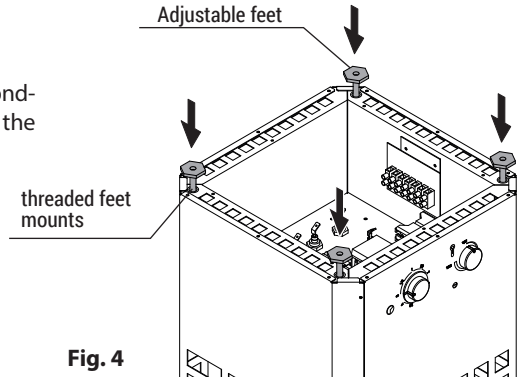

Fig. 4
- Screw in the supplied feet in the corresponding threaded bushes and secure them with the counter nuts (Fig. 4).